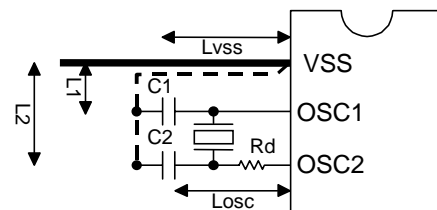

Figure 2-1. Sample Oscillation Circuit 1
- When the ceramic resonator option is selected: (Figure 2-1)
- The length of the lines (L_{osc} in Fig.2-1) between the clock I/O pins (input: OSC1, output: OSC2) and the external components should be as short as possible.